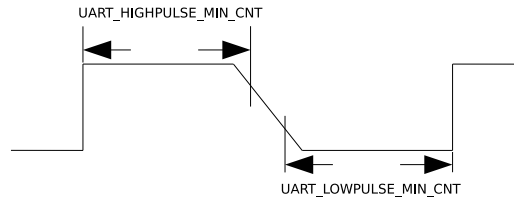

Figure 8-4. The Timing Diagram of Weak UART Signals Along Falling Edges
2. If UART signals are weak along falling edges as shown in figure 8-4, which leads to inaccurate average of `UART_LOWPULSE_MIN_CNT` and `UART_HIGHPULSE_MIN_CNT`, use `UART_POSEDGE_MIN_CNT` to determine the transmitter's baud rate as follows: